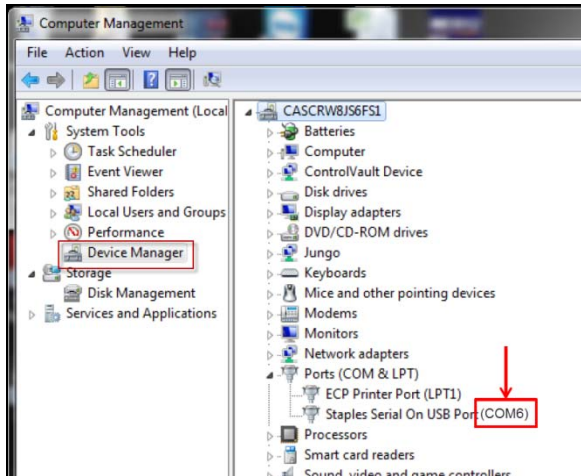

FIGURE 31: IDENTIFYING COM PORT NUMBER
3. Identify com port number. To do so, right click on “my computer” to open “computer management”. Select “device manager” and note the com number (see Figure 31).